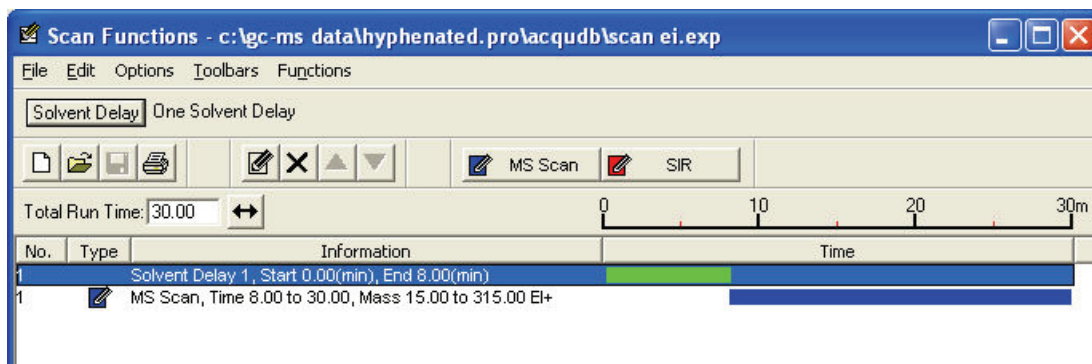

Figure 74 Function List Editor for setting up an MS method
- Using the Function List Editor in TurboMass, set up an appropriate MS method. Select either **MS Scan** for chromatographic separation mode or **SIR** (Single Ion Recording) for on-line mode (Figure 74).